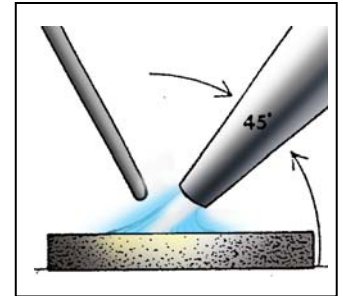

Figure 3
11. At the same time, use the other hand to bring the welding rod close to the flame for preheating. The end of the rod should be approximately $\frac{3}{8}$ in. from the flame and $\frac{1}{16}$ to $\frac{1}{8}$ in. from the pool surface. The rod is held at an angle to the work, usually about 45 degrees. Refer to Figure 3.